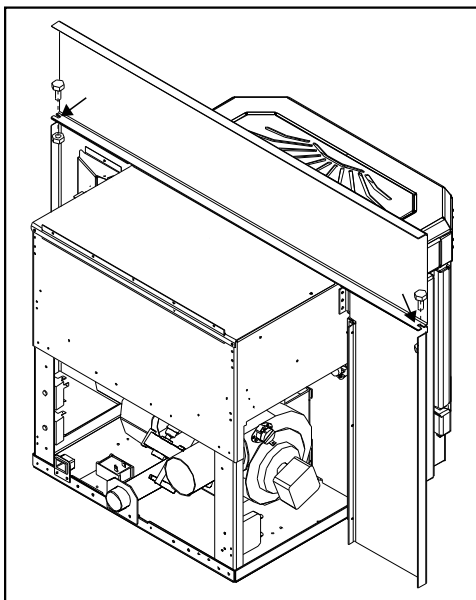

Figure 38: Assembling the Surround Panel, back view.
6. Insert each side panel anchor bolt through the top panel into the corresponding side panel holes and tighten using a $\frac{7}{16}$ " wench or socket (refer to Figure 38).